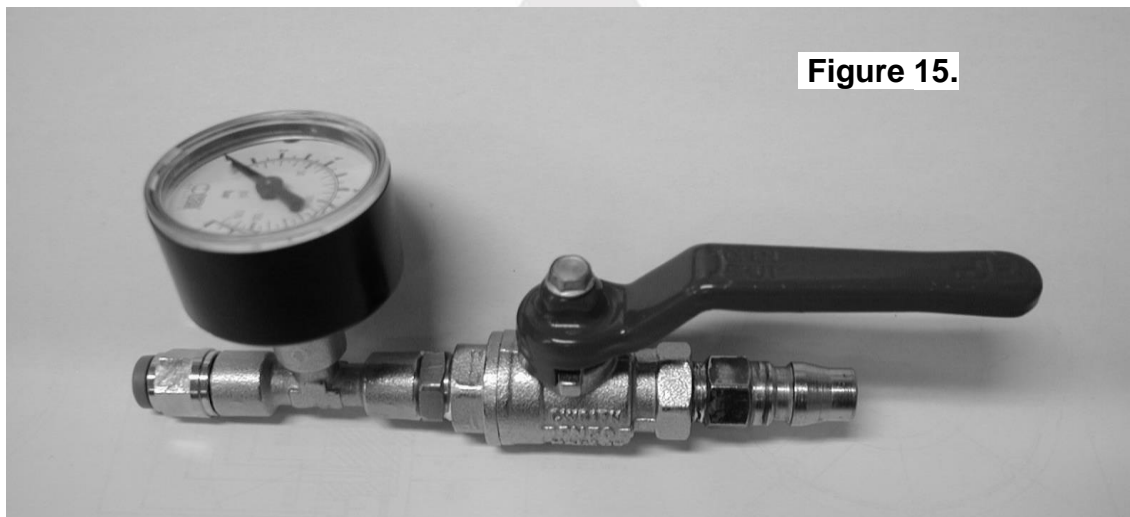

Figure 15.
**NOTE :** An accurate way to test for air leaks is to fit a shut-off valve to an air pressure gauge. (ARB part # 0770005 shown in Fig.15.). Once 620 KPA [90 PSI] is reached close the valve, disconnect the air hose, and watch to see if there is any drop in pressure. If so, this will indicate an air leak.